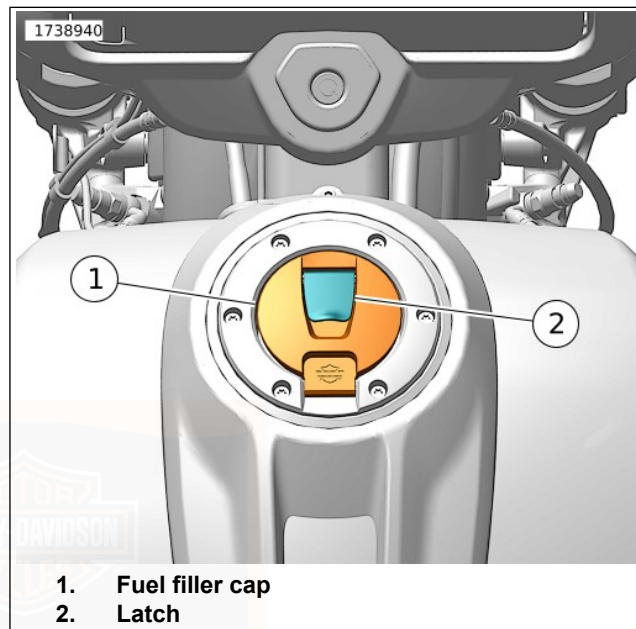

Figure 7. Fuel Filler Cap
**Open:** See Figure 7. Lift the latch (2) to open the fuel filler cap (1).